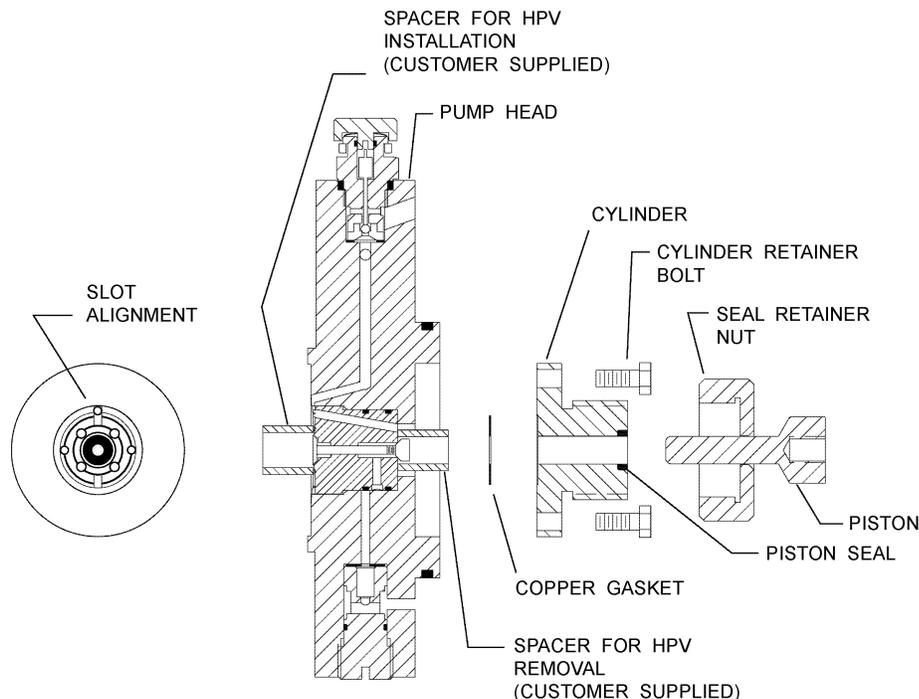

Figure 18
3. Remove the seal retainer nut from the pump head cylinder (refer to **Figure 18**).
4. Remove the four socket head capscrews that retain the cylinder to the pump head (refer to **Figure 18**) and remove the cylinder, taking care to not lose the copper gasket.
5. Select a socket or spacer which fits into the cylinder side bore of the pump head and also clears the rear poppet of the HPV (refer to **Figure 18**).